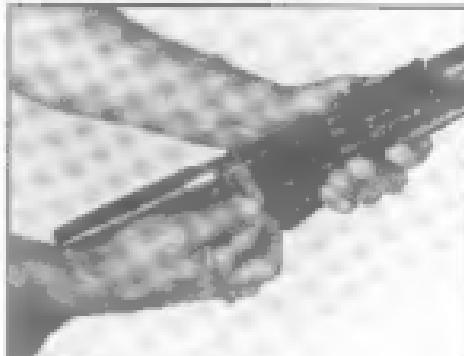

Figure 6
7. Next, pull back the charging handle to the rear and extract and eject the live round in the chamber. The bolt stop will automatically lock the bolt carrier back. (Figure 6)